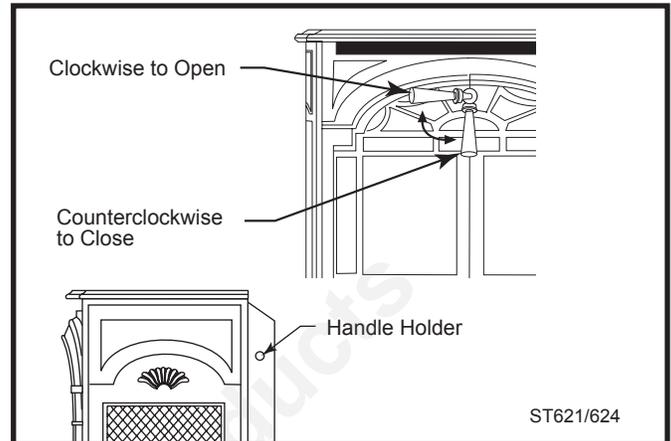

Fig. 44 To open doors, insert handle and turn. Store handle in handle holder.
1. Open the front doors by inserting the handle into the door latch stub and turn clockwise. (Fig. 42) When not in use, the handle may be stored in the handle holder located on the right side of the rear shroud. (Fig. 44)